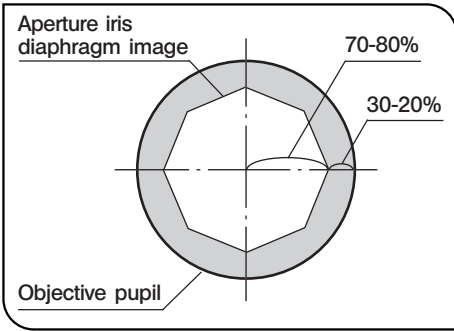
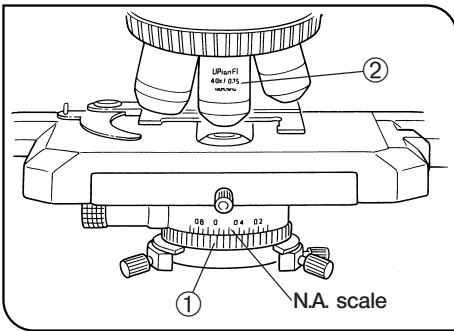

Fig. 31
Fig. 32
Aperture Iris Diaphragm (Figs. 31 & 32)
- Since the contrast of microscope specimens is ordinarily low, setting the condenser aperture iris diaphragm to *between 70 and 80% of the N.A. ②* of the objective in use is usually recommended. Adjust the ratio by removing the eyepiece and looking into the eyepiece sleeve while adjusting the aperture iris diaphragm ring ① until the image shown in Fig. 31 is seen.
③ Using the numerical aperture scale:
You can use the condenser numerical aperture scale by adjusting the aperture iris diaphragm ring ①. (Fig. 32)